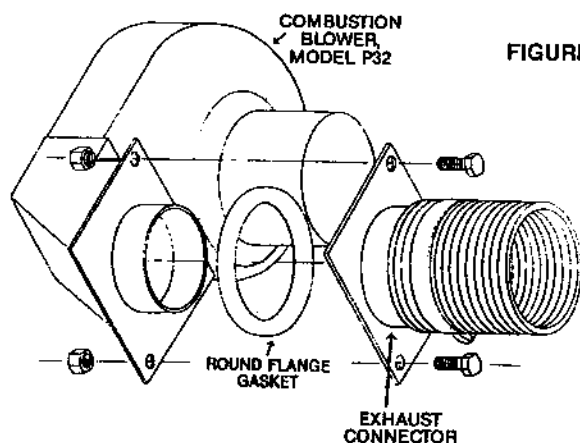

FIGURE 10
d. On Model P32 you can easily detach the vent at the combustion blower transition (see figure 10). To clean the chimney, remove bolts. Make sure gasket is in place and bolts are tightened equally when re-attaching.